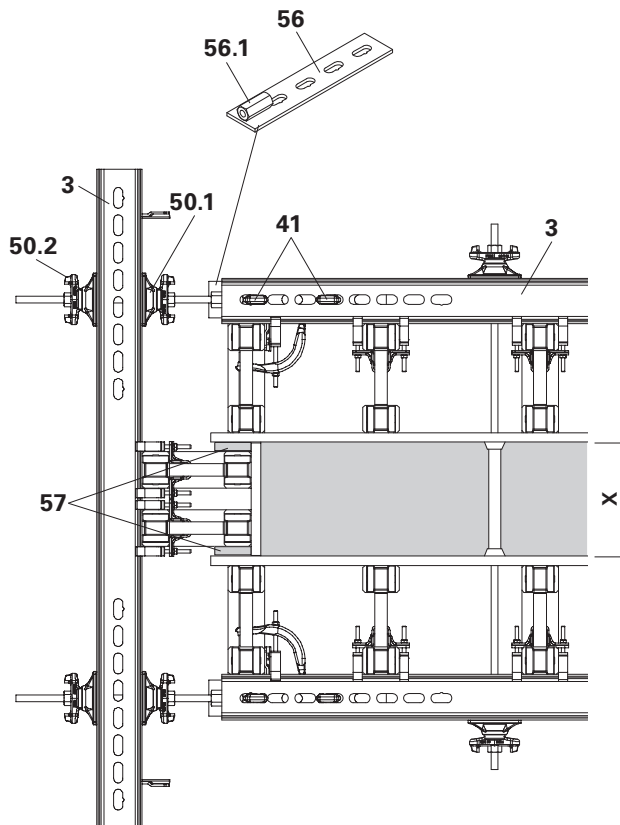

Fig. B9.02
1. Insert Stopend Tie (56) into the Steel Waler SRZ (3) of the panel.
2. Tightly fix stopend tie by hammering in KZ Wedges (41).
5. Place prefabricated stopend element against the limit plate (57).
6. Screw on outer wingnut pivot plate (50.2) and tighten stopend element. (Fig. B9.02)